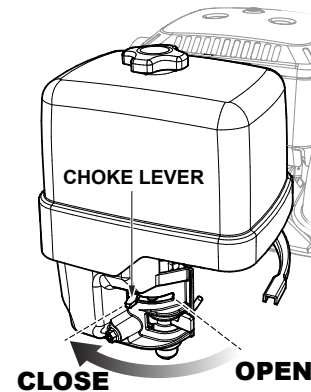

Figure 10. Engine Choke Lever (Closed)
4. If starting a cold engine, place the engine choke lever in the **CLOSED** position (Figure 10).